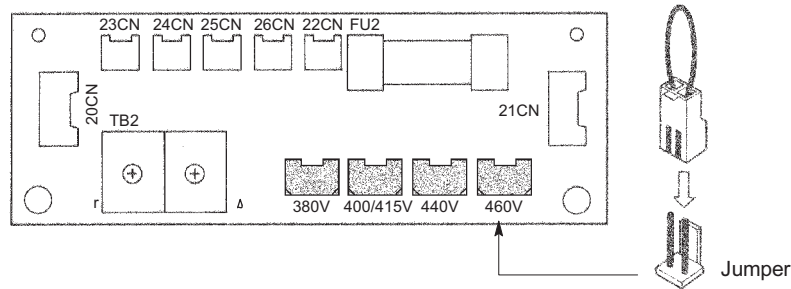

Figure 4.1 Setting the Power Supply Voltage (For 400 V Class Power Regenerative Unit between 37 kW and 75 kW)
3. Insert the jumper at the position for the voltage supplied to the power regenerative unit (see Figure 4.1).